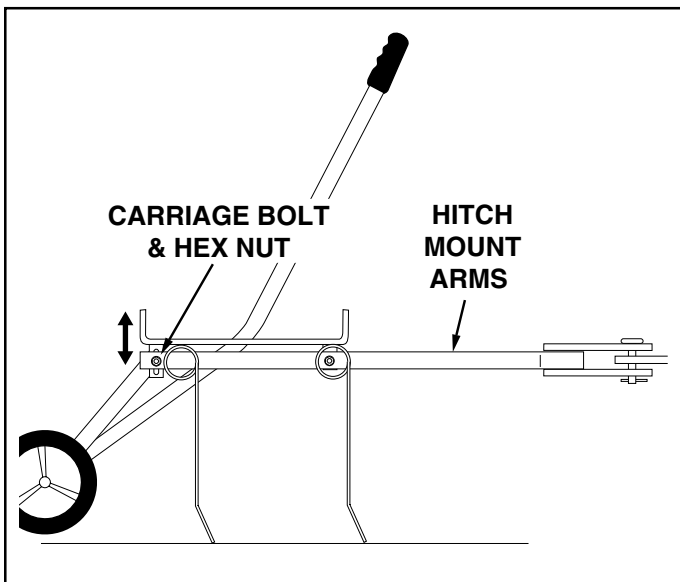

FIGURE 10
1. Move the towing vehicle onto a level surface, such as a driveway or garage floor and attach the tine de-thatcher to the vehicle hitch. See figure 10.
2. To adjust the spring tine shield, lower the de-thatcher into operating position using the lift handle. Loosen the two hex nuts and carriage bolts which fasten the rear of the hitch mount arms to the hitch arm mount brackets. Adjust the tine shield until it is level and both the front and rear spring tines are in contact with the ground. Retighten the hex nuts. See figure 10.